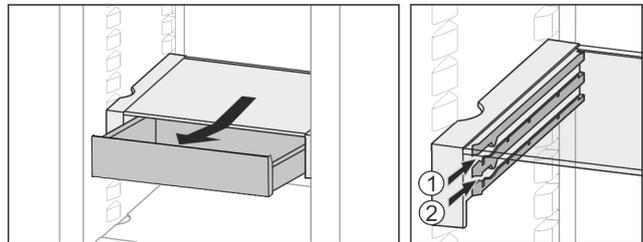

Fig. 35
- ▶ Slide in at any height Fig. 35 (1) or Fig. 35 (2).